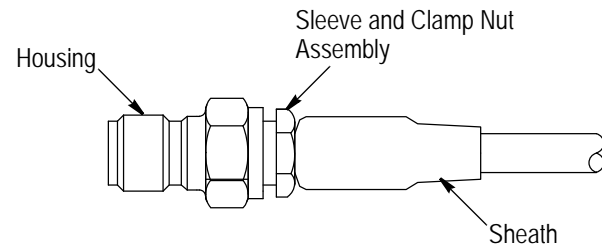

Figure 6
3. Position the sheath over the ferrule as shown in Figure 6